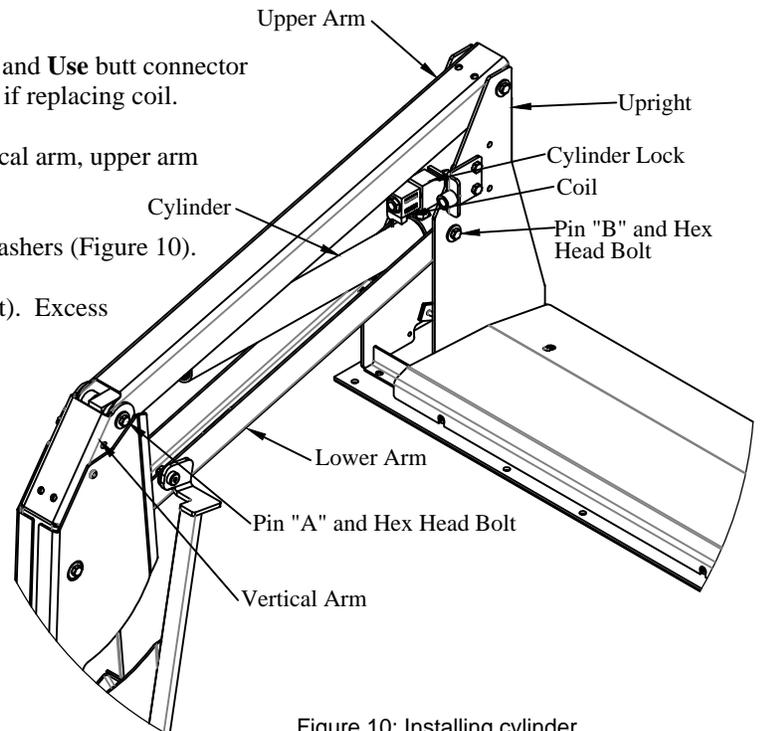

Figure 10: Installing cylinder.
- 2. Install** pin "B" from the outboard side, through the lower arm, cylinder and uprights (Figure 10).
- 4. Install** the coil on the cylinder lock (Figure 10).
- 6. Insert** new pin "A" from the outboard side, through the vertical arm, upper arm and cylinder (Figure 10).
- 7. Secure** pins "A" and "B" with new hex head bolts and flat washers (Figure 10).